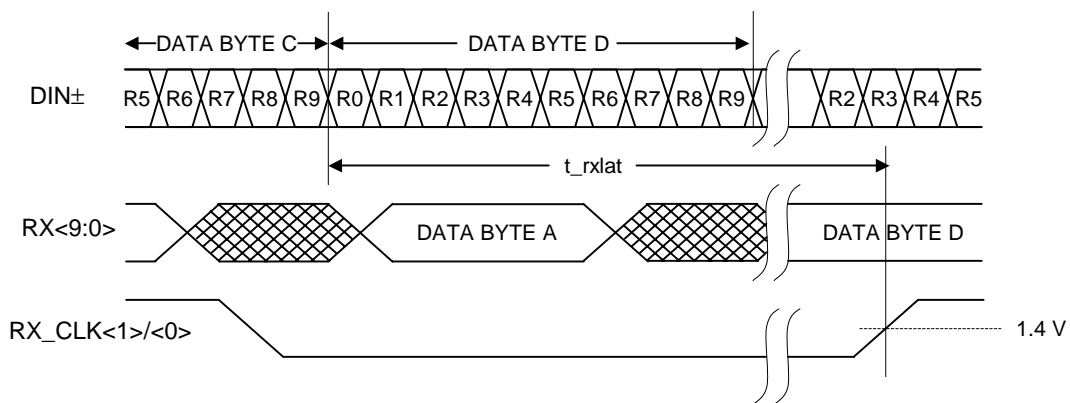

Figure 6. Receiver Latency
2. The receiver latency as shown in Figure 6, is defined as the time between receiving the first serial bit of a parallel data word (defined as the first edge of the first serial bit) and the clocking out of that parallel word (defined by the rising edge of the receive byte clock, either RBC1 or RBC0).